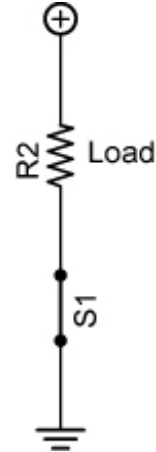

Figure 27: Analogous Switch for Circuit
- If the transistor is simply acting as a switch in our application, is it critical how the load R2 and the transistor switch are arranged? Can the load be placed between the emitter and ground rather than between the power supply and collector? After all, in the analogous circuit in Figure 27, the switch could be placed on either side of the load since the load and the switch are in series.